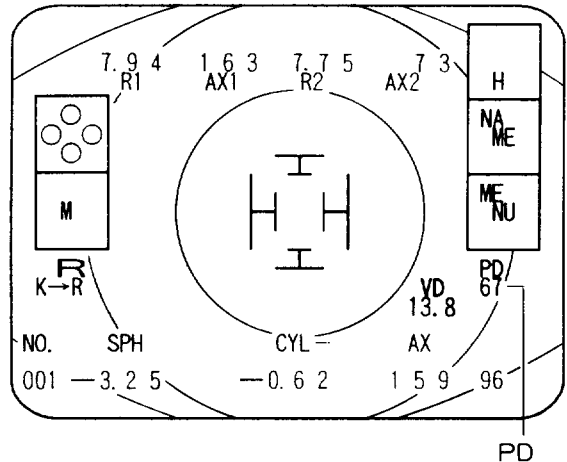

Figure 3-13
- ⑧ After both eyes have been measured, the PD (pupil distance in mm) value will appear above the confidence value (see Figure 3-13).